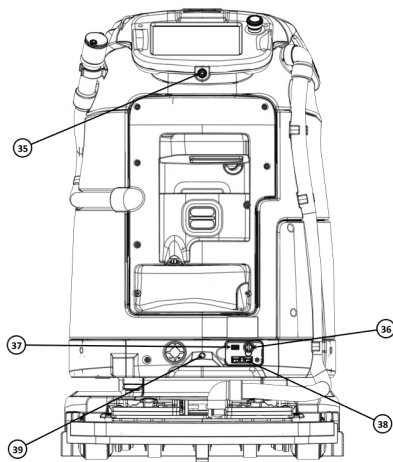

Figure 5
- 35. Power button (Figure 5)
- 36. Key switch (Figure 5)
- 37. USB port (service only) (Figure 5)
- 38. Manual charging port (Figure 5)
- 39. Rear RGB camera (Figure 5)